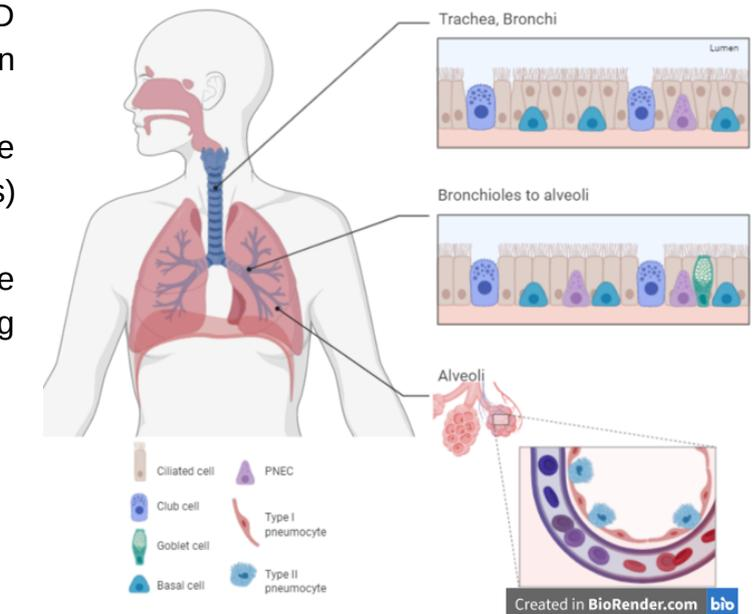

Figure 1. The pulmonary cells found within various regions of the lung. Made with BioRender.
- Adapted existing mono- and multi-cellular 3D systems mimicking the specific cell types in different lung compartments (Figure 1).